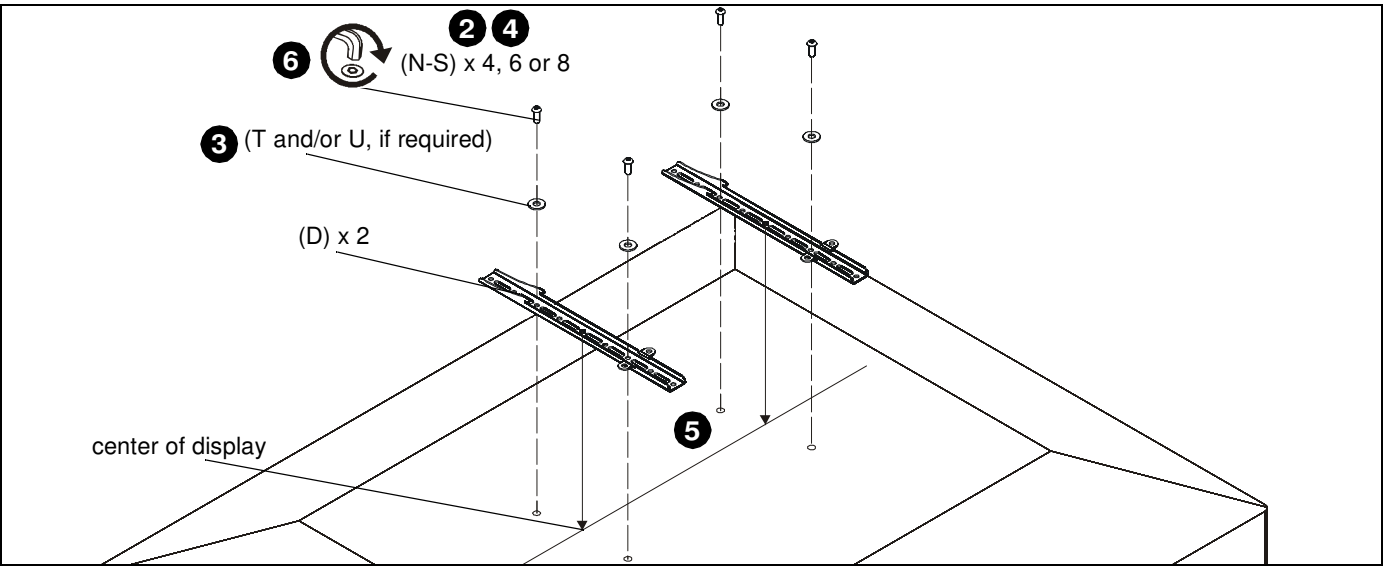

Figure 6
2. Select screw *diameter* by examining hardware (M-R) (8mm, 6mm, 5mm, or 4mm) and comparing with mounting holes on display. (See Figure 6)
5. Place vertical interface brackets (D) on display, ensuring: (See Figure 6)
- Center of brackets (D) are as close to the center of the back of display as possible after being installed. Center of bracket is indicated by the diamond-shaped hole.
6. Install selected screws through washers (T and/or U, if required) vertical interface bracket (D) and into display mounting holes. (See Figure 6)